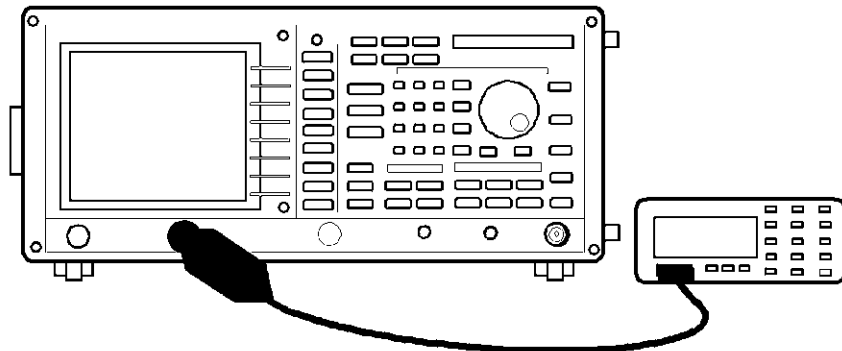

Figure 5-22 Setup of Absolute Output Level Accuracy Test
3. Connect the equipment as shown Figure 5-22.